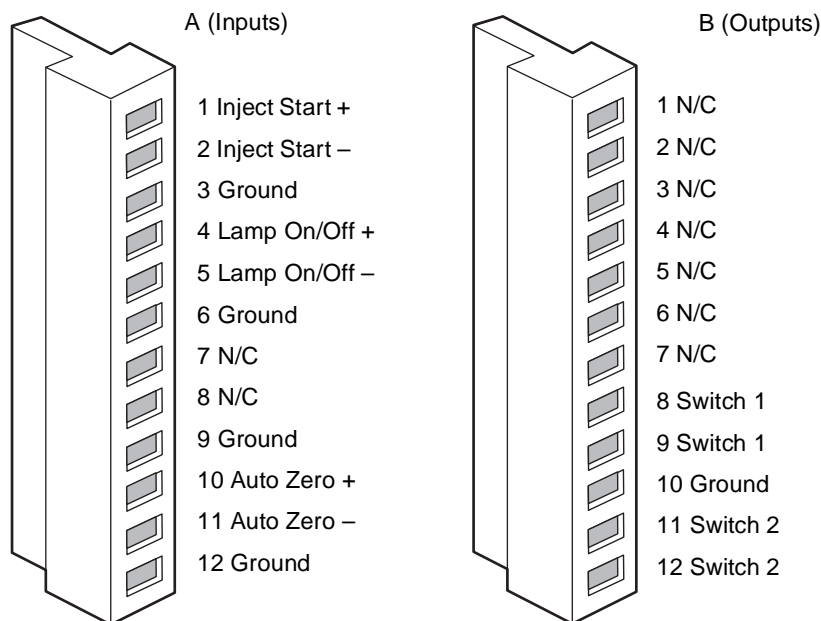

Figure 2-7 I/O Signal Inputs and Outputs
1. Remove terminal A or B (Figure 2-7).
The rear panel includes one removable connectors that hold the pins for the I/O signals, as shown in Figure 2-7. These connectors are keyed so that you can insert them only one way.